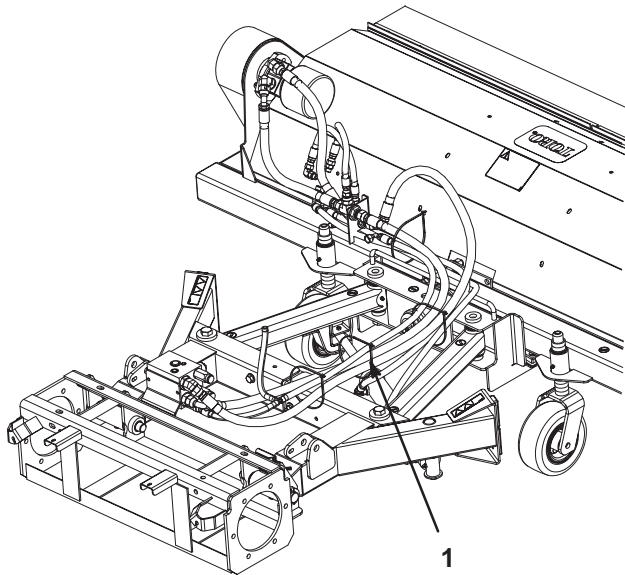

Figure 14
12. Secure hydraulic hoses with (4) wire ties as shown in figure 14. Space wire ties along length of hoses.